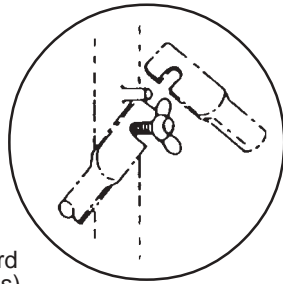

Fig. 1
- Attach diagonal bracing to frame sections, securing in place with the frame brace locks (Fig. 1).